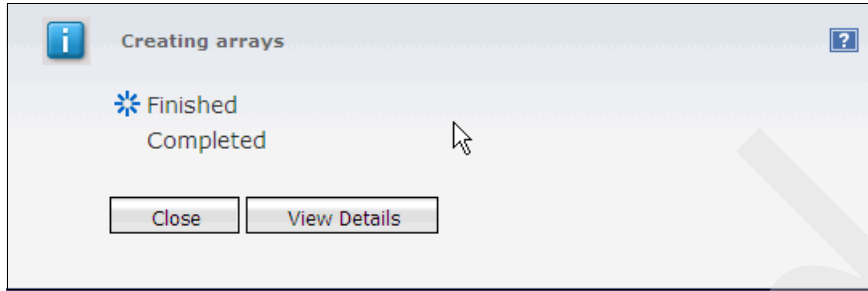

Figure 13-27 Creating arrays completed
9. Wait for the message in Figure 13-27 to appear and then click **Close**.